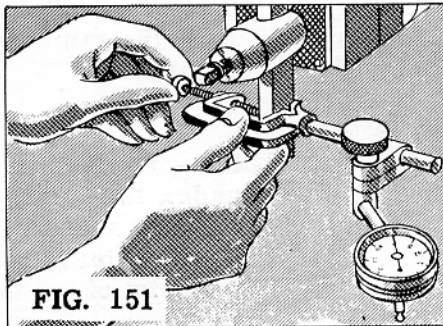

FIG. 151
13. Clamp the assembled unit to the end of the tool holder with the dial facing upward (Fig. 151).